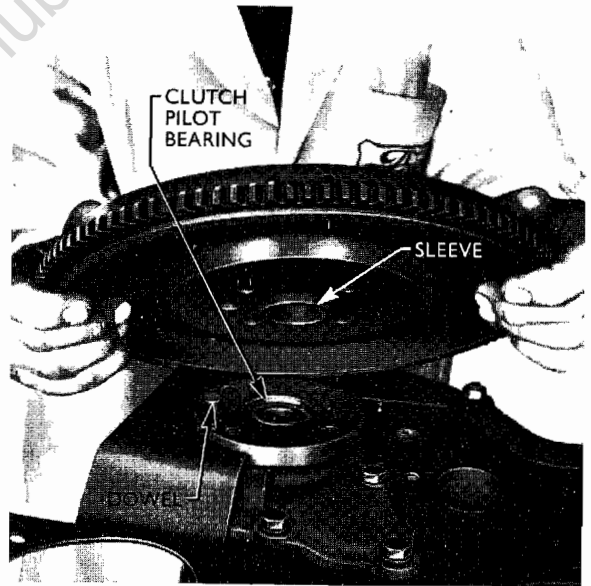

Fig. 24
13. (a) **Refit the flywheel** complete with locating sleeve (see Fig. 24), after first checking that the pilot bearing is in the crankshaft end and that the mounting flange and crankshaft flange are clean and free from burrs. Locate the flywheel squarely upon the dowel in the crankshaft flange, tap it into place, fit the locking plate and retaining bolts tightening them evenly to the correct torque (see Specification).